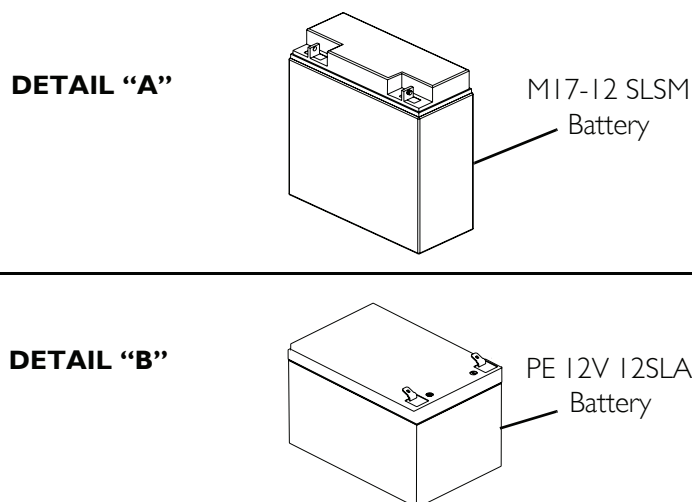

FIGURE 8.1 Recommended Battery Type
NOTE: For this procedure, refer to FIGURE 8.1.
At'm uses two (2) M17-12 SLSM type batteries (Detail "A" of FIGURE 8.1).
At'm QT uses two (2) PE 12V 12SLA batteries (Detail "B" of FIGURE 8.1).